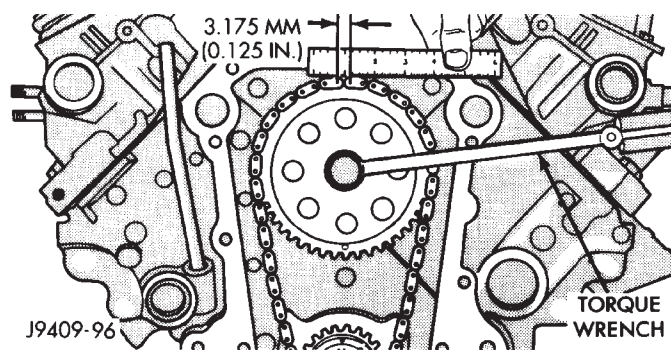

Fig. 5 Measuring Timing Chain Wear and Stretch
(1) Place a scale next to the timing chain so that any movement of the chain may be measured.
(2) Place a torque wrench and socket over camshaft sprocket attaching bolt. Apply torque in the direction of crankshaft rotation to take up slack; 41 N·m (30 ft. lbs.) torque with cylinder head installed or 20 N·m (15 ft. lbs.) torque with cylinder head removed. With a torque applied to the camshaft sprocket bolt, crankshaft should not be permitted to move. It may be necessary to block the crankshaft to prevent rotation.
(3) Hold a scale with dimensional reading even with the edge of a chain link. With cylinder heads installed, apply 14 N·m (30 ft. lbs.) torque in the reverse direction. With the cylinder heads removed, apply 20 N·m (15 ft. lbs.) torque in the reverse direction. Note the amount of chain movement (Fig. 5).